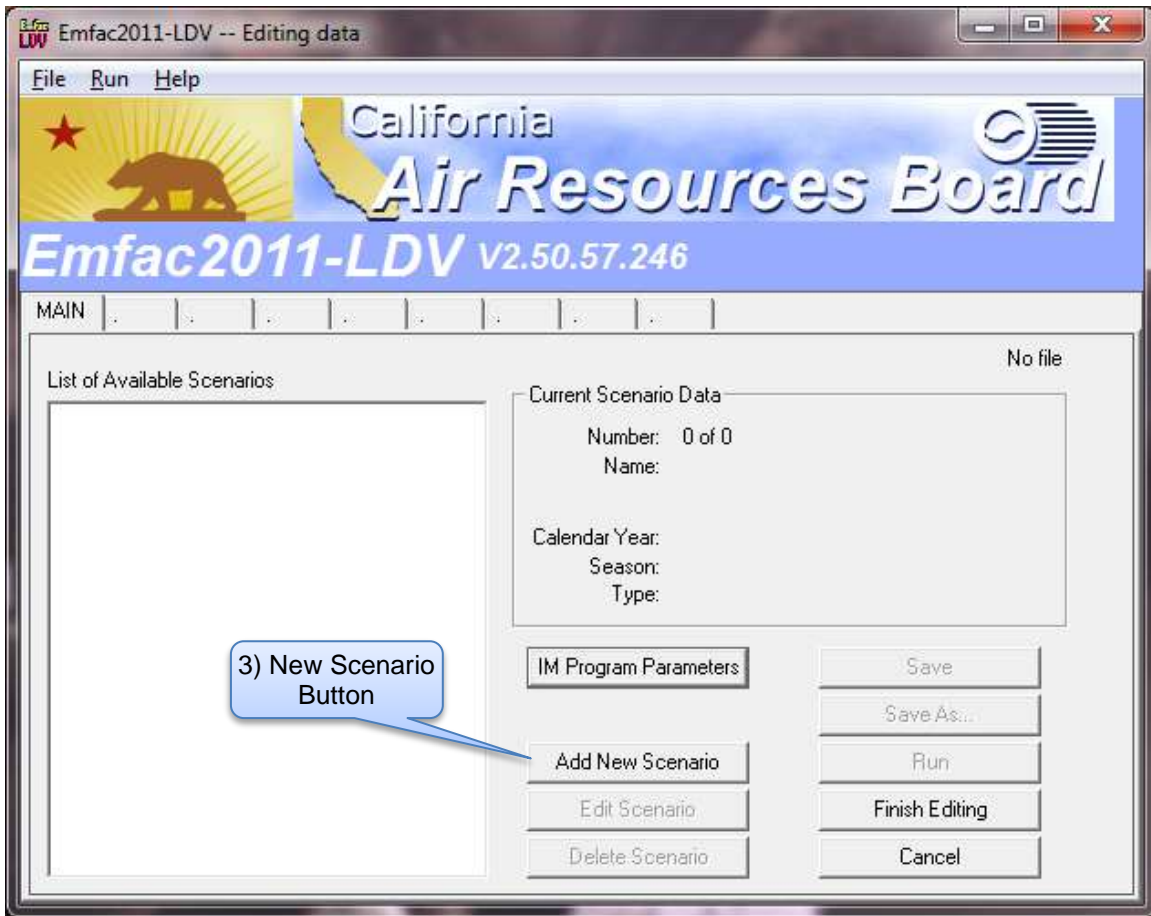

Figure 3-2 EMFAC2011 New Scenario Screen
2. From the menu click File →New. The screen should change as seen in Figure 3-2.